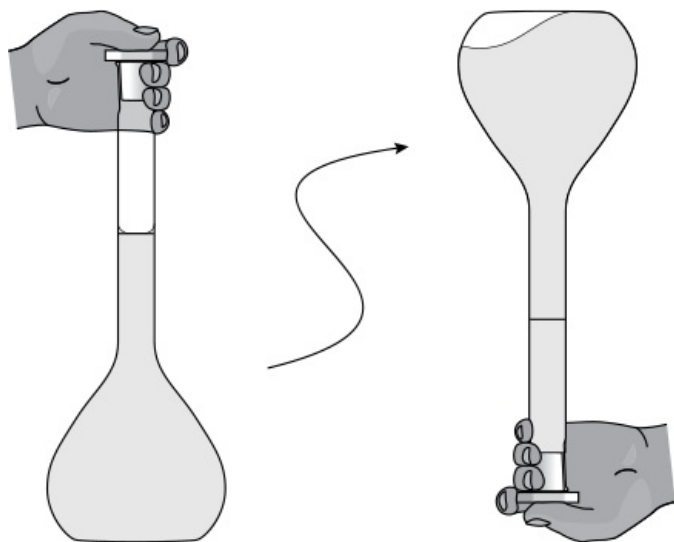

Figure P.3: Shaking a volumetric flask
- 6 Place the stopper in the neck of the volumetric flask and, *keeping the stopper firmly in the neck using your thumb*, mix the solution by turning the flask upside down at least five or six times (see Figure P.3). If you move the flask and still see swirling currents in the liquid you have not mixed enough—just turn upside down a few more times.